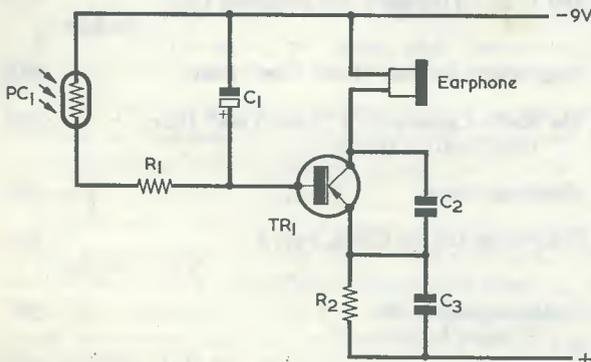

Fig. 1. The circuit of the light sensitive oscillator
**T**HIS SMALL, ONE-TRANSISTOR DEVICE CAN BE USED AS an "electronic eye" to mystify your friends, or as an amusing party game. Model makers and those interested in robot control will also no doubt find plenty of other uses for this adaptable device. The circuit is shown in Fig. 1.